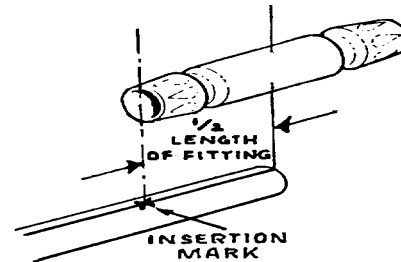

Figure 9. Tube-end marking tube ends.
4. Continue with step 5 in Figure 9. Tube-end. Use tube-to-tube union when performing steps 6 through 10.
4. Continue with step 5 in Figure 9. Tube-end marking. Use two tube-to-tube unions when performing steps 6 through 10.
4. Continue with step 5 in Figure 9. Tube-end marking. Use three tube-to-tube unions and one tee when performing steps 6 through 10.
4. Perform step 5 in Figure 9. Tube-end marking. Use a tube-to-tube union when performing steps 6 through 10.